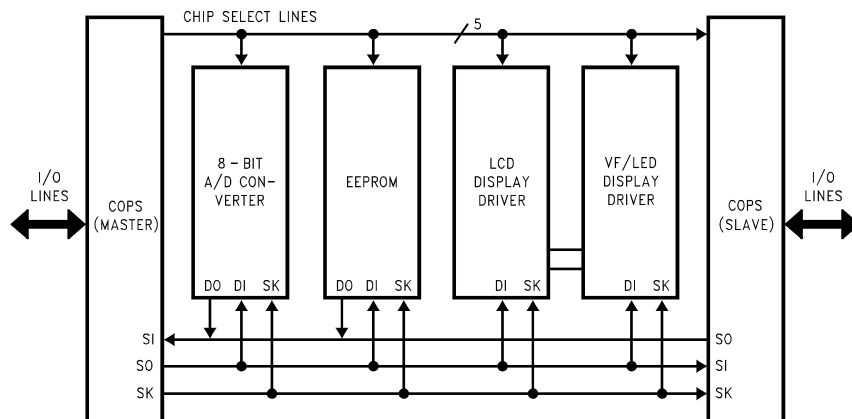

FIGURE 21. MICROWIRE/PLUS Application
MICROWIRE/PLUS is a serial SPI compatible synchronous communications interface. The MICROWIRE/PLUS capability enables the device to interface with MICROWIRE/PLUS or SPI peripherals (i.e. A/D converters, display drivers, EEPROMs etc.) and with other microcontrollers which support the MICROWIRE/PLUS or SPI interface. It consists of an 8-bit serial shift register (SIO) with serial data input (SI), serial data output (SO) and serial shift clock (SK). *Figure 21* shows a block diagram of the MICROWIRE/PLUS logic.
Setting the BUSY bit in the PSW register causes the MICROWIRE/PLUS to start shifting the data. It gets reset when eight data bits have been shifted. The user may reset the BUSY bit by software to allow less than 8 bits to shift. If enabled, an interrupt is generated when eight data bits have been shifted. The device may enter the MICROWIRE/PLUS mode either as a Master or as a Slave. *Figure 21* shows how two microcontroller devices and several peripherals may be interconnected using the MICROWIRE/PLUS arrangements.